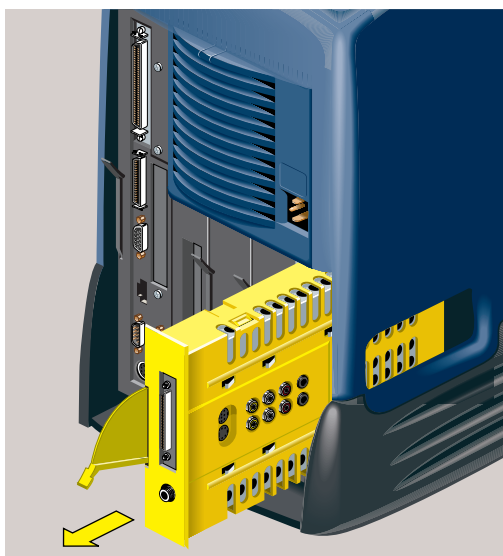

Figure 3-5 Sliding Out the Audio-Visual Module
5. Slide the audio-visual module out of the chassis and place it carefully on a clean, flat, antistatic surface, such as your desktop (Figure 3-5).